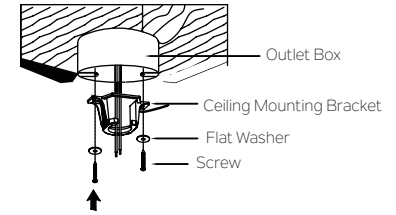

Fig. 5
Step 1. Before attaching the fan to outlet box (not included), ensure the outlet box is securely fastened to at least two points to a structural ceiling member (a loose box will cause the fan to wobble). Pass the 120 volt supply wires from the ceiling outlet box through the center of the ceiling mounting bracket. Install mounting bracket to outlet box in ceiling using the screws and washers included with the outlet box. (Fig. 5)